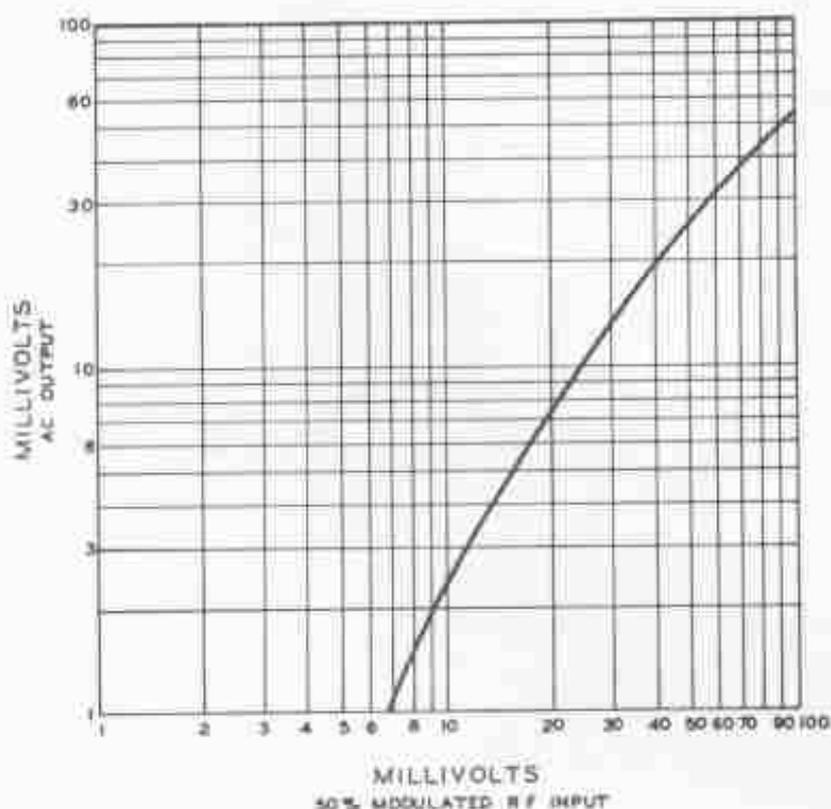

Figure 4-9. Curve Showing Modulated RF, IF Voltage Input to Test Prod MX-934/U vs AC Output Voltage
(6) When used with Test Prod MX-934/U and Extension Rod, the Signal Tracer is a radio interference locator. A common source of radio interference is the arcing at the brushes of electric motors. With the aid of the Telephone Receiver as a detector, the Prod is moved into the vicinity of the suspected motors. Once the interference can be heard in the earphone, the Prod is moved in the direction of loudest signal to the arcing brushes.
(7) The Test Prod MX-934/U and Signal Tracer can be used to check the approximate gain of RF and IF amplifier stages. (See Section 4, paragraph 3c(2).) (A sine wave generator must be used for these gain tests, as the generated signals from the Interference Generator are attenuated rapidly by tuned circuits, and this unit can only be used for audio gain checks.)
(8) With Test Prod MX-934/U the Signal Tracer can be used for servicing low level RF lines. To check a line for center conductor continuity, open the line at a jack and place the Prod near the center conductor. Audio modulation of the RF voltage is detected through the earphone. An RF line carrying its maximum power should not be opened. A mis-match may occur with arcing of the line.
(9) The RF Test Prod MX-934/U can be used as a demodulator for an oscilloscope or an electronic voltmeter. Figure 4-9 shows the relation between 50% modulated IF or RF voltage input and modulation voltage output of the Prod.
(10) For connecting an electronic voltmeter, telephone receiver, or oscilloscope to the Test Prod MX-934/U, a simple adapter for the RF Cable Assembly can be constructed. An input jack assembly J-203 from the spare parts of the Test-Tool Set can be obtained and short lengths of wire soldered to its output terminals. The wires can then be stripped and attached to any electronic voltmeter or oscilloscope.
(11) The Telephone Receiver can be used with the 0.25-mfd capacitor of the Decade Capacitor TS-671/U to trace audic signals when amplification is not required.
(12) Open circuits in wires can be detected by tracing a signal along the path of the wire. This signal can be generated by the Interference Generator and detected with Test Prod MX-934/U connected to the Signal Tracer.
(13) The Test Prod MX-934/U with adapter mentioned in paragraph (10) above can be connected to an AC electronic voltmeter to indicate modulated RF voltages of weak oscillators.
(14) In applications on radar sets, the Telephone Receiver can be used to check the existence of trigger pulses from the modulator unit to the indicator unit of less than 600 volts peak. This is done by disconnecting the cable at the indicator unit panel and connecting the earphone in series with a 0.25-mfd capacitor of the Decade Capacitor across the cable terminals. A loud tone will indicate that the pulses from the modulator unit are reaching the indicator unit panel.
(15) Pulses at IF frequencies in radar sets can be detected by use of the Test Prod MX-934/U and amplified by the Signal Tracer. Pulses can be detected on the output of the Signal Tracer by means of the Telephone Receiver or an oscilloscope. Pulse shapes observed on the oscilloscope will generally be distorted due to the limited band width of the Signal Tracer.
(16) Video pulses can be traced with the audio Test Prod MX-933/U and the Signal Tracer with Telephone Receiver. In cases where the signal is of a high level and some distortion is allowable, the Telephone Receiver in series with a 0.25-mfd capacitor can sometimes be used directly.